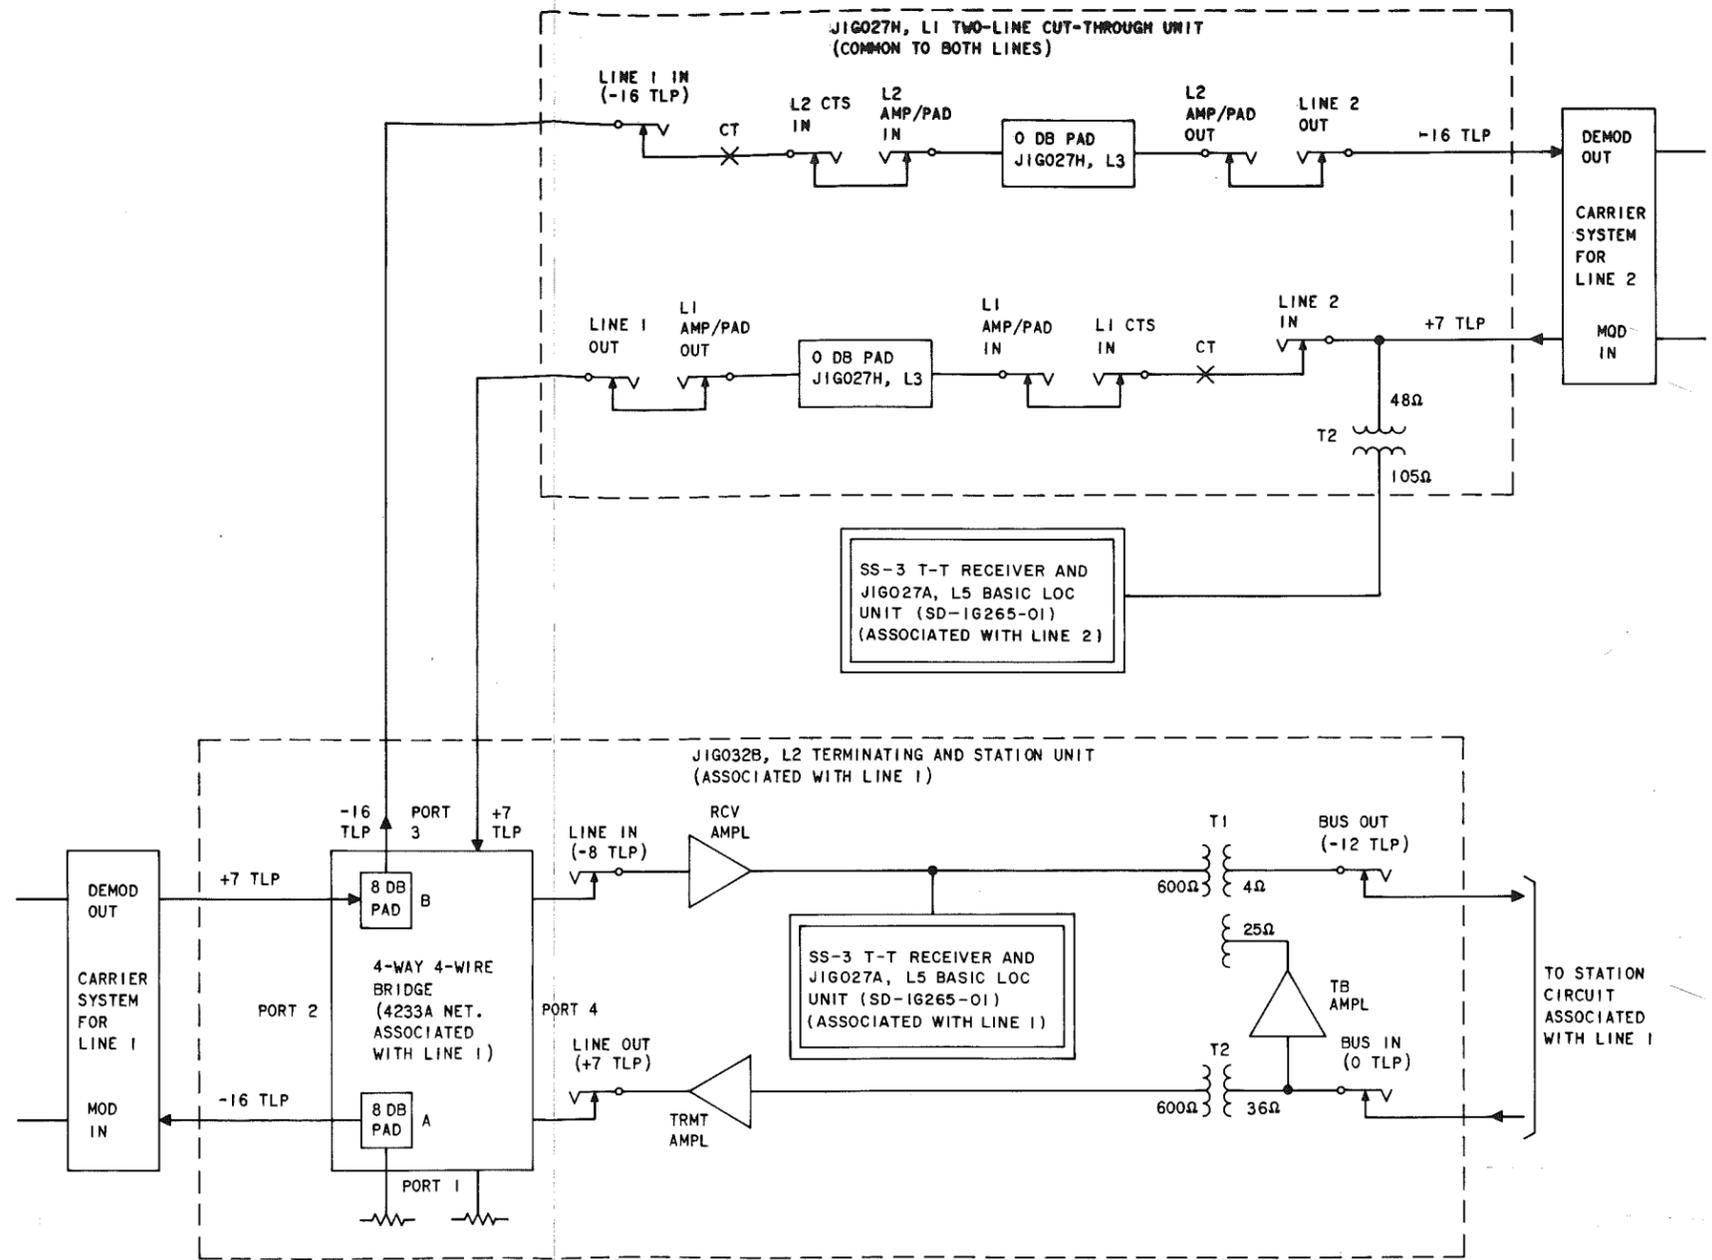

Fig. 4—Two-Line Cut-Through Switch—With Terminating and Station Equipment on One Line
**2.10** When a terminating and station circuit is associated with one line but not the other line, adjust the equipment as follows (Fig. 4):
- (1) Adjust terminating unit J1G032B, L2 as outlined in 2.05 with the exception of substituting the following for 2.05(7):
- (a) Adjust the GN ADJ pad (A on Fig. 4) for port 2 on the 4233A network to obtain a detector reading of -16 dBm at the carrier terminal input.
- (c) Adjust the GN ADJ pad (B on Fig. 4) for port 3 on the 4233A network to obtain a -16 dBm reading on the detector.
- (2) Perform the procedures outlined in 2.06 for the basic location unit J1G027A, L5 associated with the terminating and station unit on line one.
- (3) Insert the input of the 600-ohm detector into the LINE 2 IN jack on the J1G027H, L1 unit.
*Note:* At some installations, it may be necessary to arrange for assistance in performing Step (4).
- (4) With a 1000-Hz tone at +7 dBm being sent from the carrier terminal output for line 2, a +7 dBm reading should be observed at the detector.
- (5) Adjust the R14 potentiometer, located on the rear of the J1G027A, L5 unit associated with line two, to the full clockwise position.
- (6) Ensure that an 89-type resistor is installed in the 849C network (J1G027H, L3) associated with each of the two lines. The proper resistor must be selected to provide the required loss between the output of one line and the input